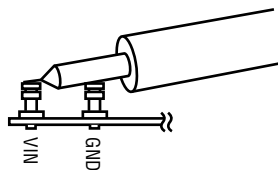

Figure 2. Measuring Input and Output Ripple
**NOTE:** When measuring the input or output voltage ripple, care must be taken to avoid a long ground lead on the oscilloscope probe. Measure the output (or input) voltage ripple by touching the probe tip and probe ground directly across the +VOUT and -VOUT (or VPORT\_P and VPORT\_N) terminals. See Figure 2 for proper scope probe technique.